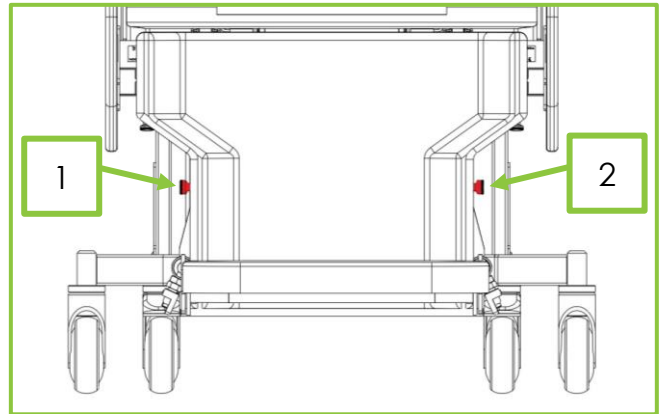

Figure 15
3. Locate the footplate height adjustment plungers on either side of the legrest (Fig 15, Items 1&2).